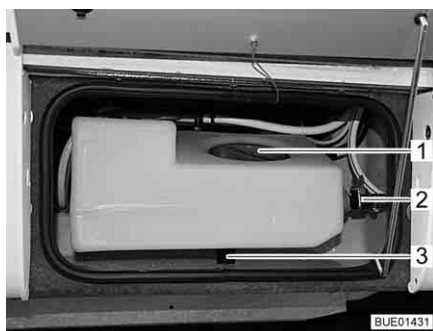
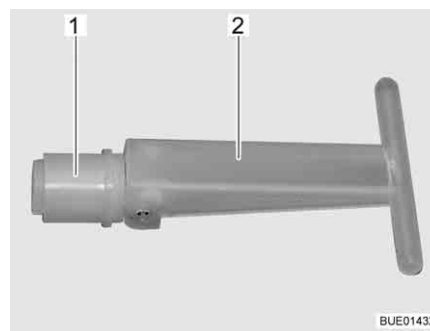

Fig. 223 Auxiliary water tank
Fig. 224 Stopper
When the emptying valve (Fig. 223,2) is open, the fill quantity of the auxiliary water tank is limited to approximately 30 litres; excess water will drain off. When the emptying valve is shut, the entire tank volume is available.
When the stopper (Fig. 224,1) is pulled in the inside of the auxiliary water tank, the water drains away via the drain (Fig. 223,3). The stopper can be accessed via the service opening (Fig. 223,1).
- Ensure that the stopper (Fig. 224,1) in the auxiliary water tank is shut (handle (Fig. 224,2) is folded out).
- Ensure that the emptying valve (Fig. 223,2) is shut.
- Open the service opening (Fig. 223,1) in the auxiliary water tank.
- Access the handle (Fig. 224,2) of the stopper (Fig. 224,1) via the service opening, turn the handle to the vertical position and remove the stopper.
- Open the emptying valve (Fig. 223,2) on the auxiliary water tank.